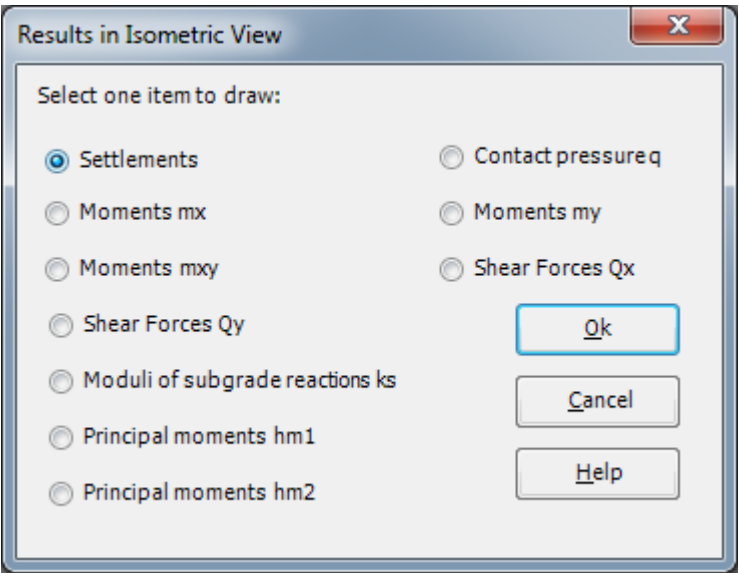

Figure 1.36 "Results in isometric view" option box
- Choose "Isometric View" command from "Result" menu. The following option box in Figure 1.36 appears